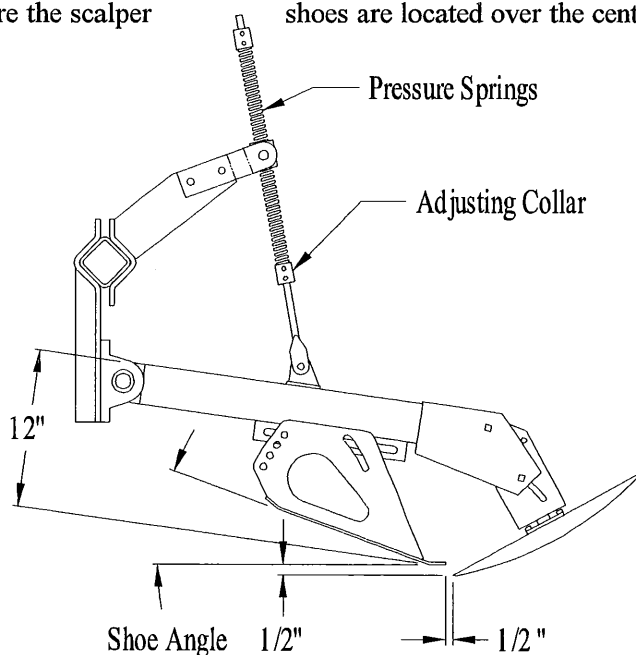

Figure 6.
### 3. Hydraulic Driven Disk Scalper (Figure 6):
- Adjust the shoe angle so the bottom lip of the shoe is level when touching the ground and the bottom of the shoe is approximately 12" from the top of the scalper arm (see Figure 6). Tighten the shoe mounting bolts to a "snug" position only.
- Adjust the disk to have a slight angle toward the shoe as illustrated in Figure 6. Remove the top bolt holding the disk assembly and only loosen the bottom bolt. Move the disk to the desired angle, and then reinstall the bolts (tighten securely). **Note: The relationship between the tip of the disk and the shoe will remain the same when the angle of the disk is changed.**